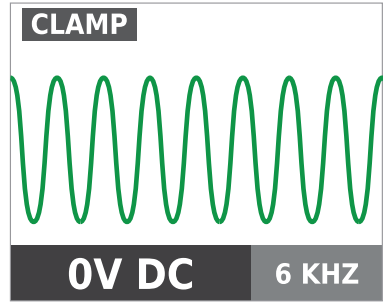

Figure 4.10a
2. Press HIGH signal mode for 2 seconds to select the CLAMP mode on the transmitter. The clamp mode generates a boosted 6kHz signal in order to provide superior tracing results. The screen on the Transmitter should appear as in Figure 4.10a.